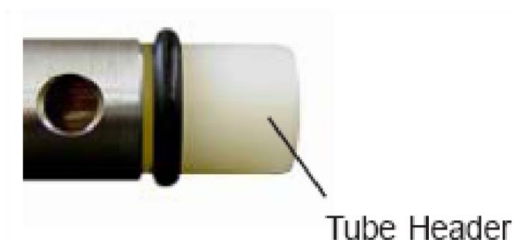

Figure 8
2. Insert eraser end of pencil into one sample port until it rests on tube header face (Refer to Figure 8).